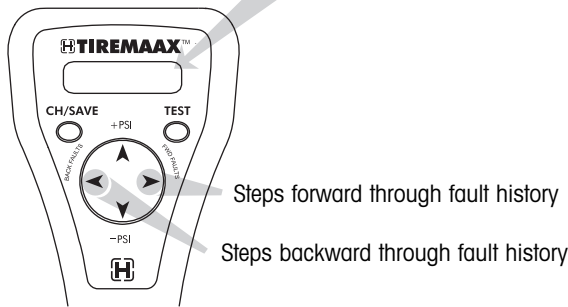

Figure 15. Stepping through the fault code history
1. Press the BACK FAULTS arrow on the direction pad to go back through the six most-recently recorded faults (figure 15).
2. Press the FWD FAULTS arrow on the direction pad to go forward through the six most-recently recorded faults (figure 15).
The upper left corner of the display identifies the fault by its relationship to the last fault (figure 15).